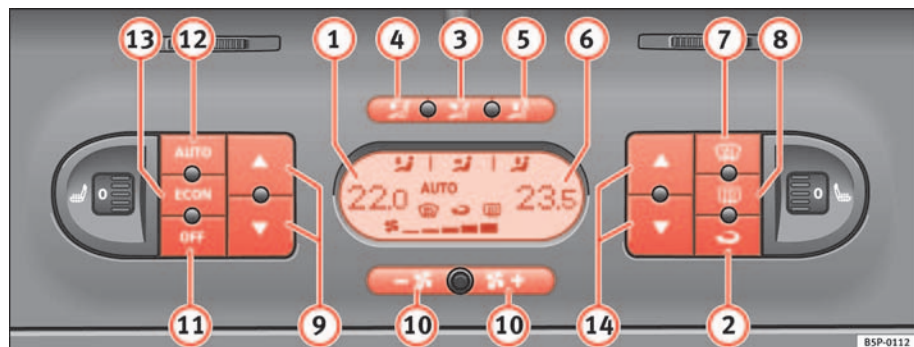

Fig. 127 On the dash panel: 2C Climatronic controls
- To enter manual mode, press one of the buttons ⇒ fig. 127 ③ to
⑤, (ECON) or turn the air flow control ⑩. The symbol (AUTO) will disappear from the display. ▶
- Press the button  ⇒ page 152, fig. 127  to switch air recirculation mode on or off. It is switched on if the following symbol appears in the display .